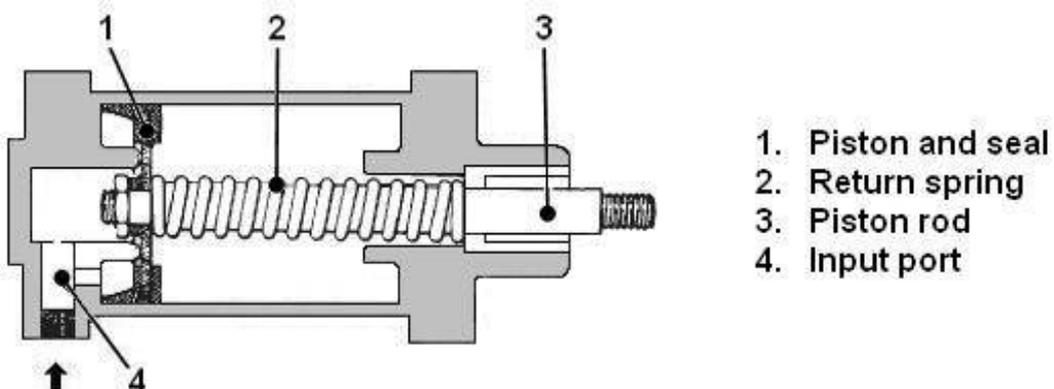

Figure 32 Single-acting Cylinder
**82. Single-acting Cylinder.** The single-acting cylinder (Figure 32) converts a pneumatic input to a linear output. When pressure is applied to the input port, the piston is driven along the cylinder, extending the piston rod and compressing the internal spring. When the pressure is removed, the return movement of the piston is effected by the compressed internal spring.